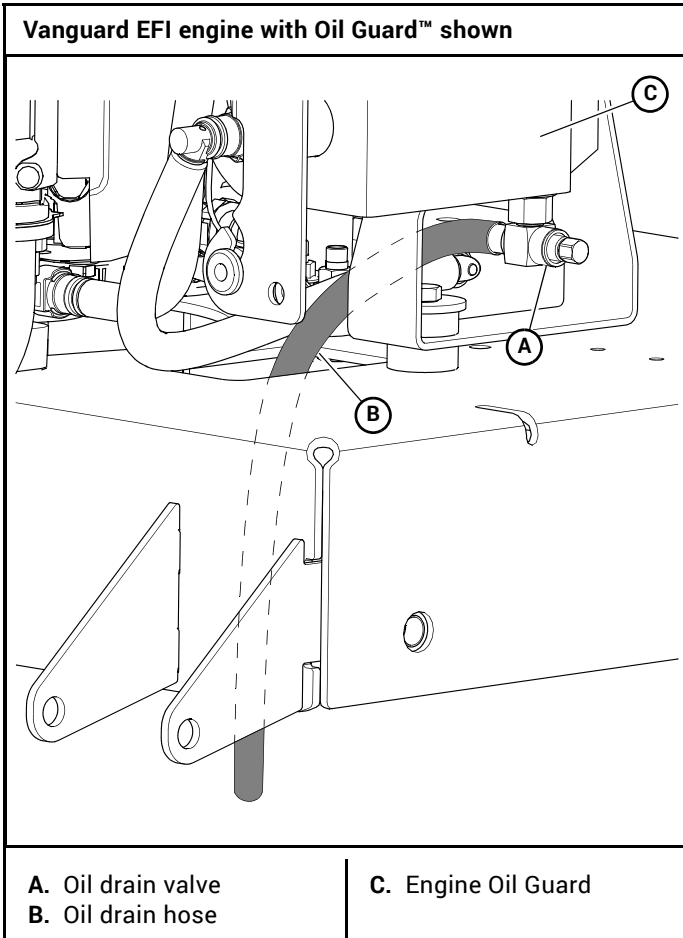

Figure 4-11
1. Locate the oil drain valve on the engine oil tank. Figure 4-11
3. Attach one end of the hose onto the oil drain valve nipple. Make sure the hose is pushed all the way onto the valve. Figure 4-11